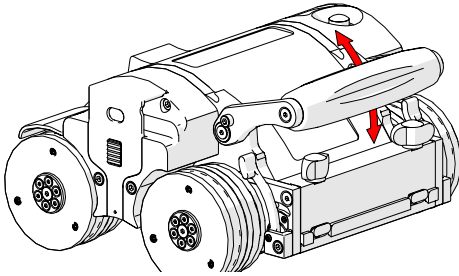

Fig. 96 - Pivot handle as desired
2. Pivot the handle as required (*Fig. 96*).